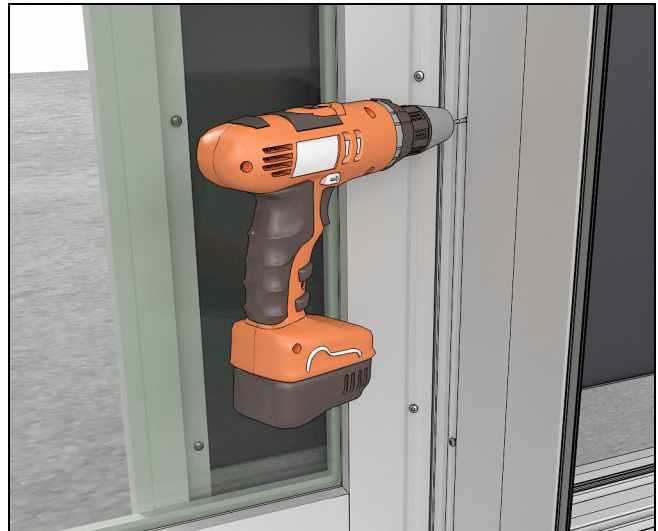

Figure 101
4. Use the existing holes in the middle of the pocket cover as a guide to drill through cover and support block with a 1/8" drill bit. Fasten with the same screws you used earlier at the top and bottom. See Figure 101.